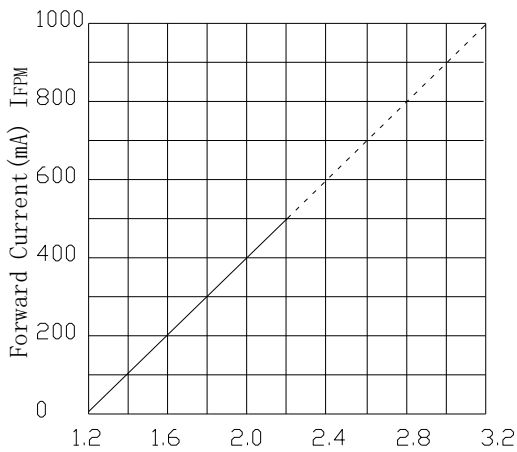

Fig.3 Forward Current I_{FPM} VS. Forward Voltage (V)
- 3) Similarly, when a jig is used to solder the LED to PC board, take care as much as possible to avoid steering the leads (See Fig.3).